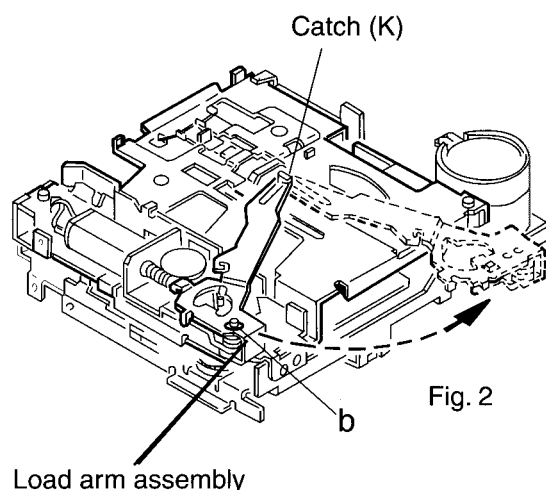

Fig. 2
- 2. Push and open the right and left open/close shaft arms outward to remove the shaft. (See fig 2)
■ Removing the Load Arm Assembly (See Fig. 2)